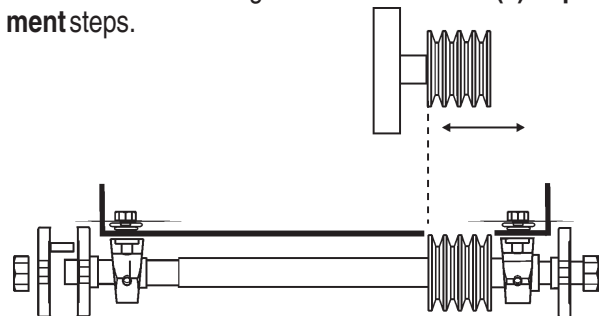
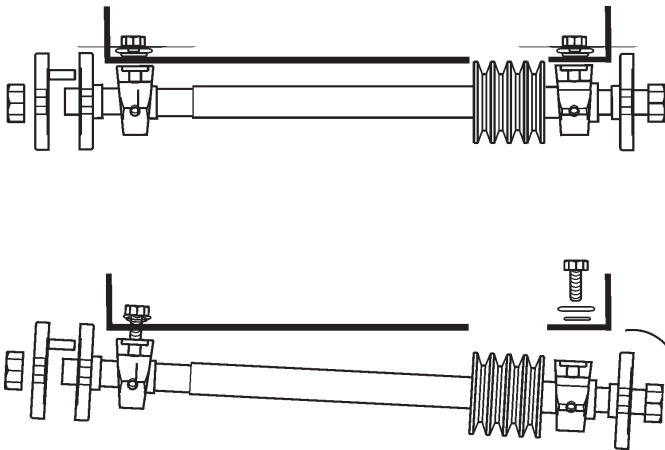

Figure 26. Pulley Alignment
Figure 30. V-Belt Removal
6. Reorient the new pulley on the shaft, and ensure precise pulley alignment by utilizing an accurate straight edge (see Figures 26 and 27).
- Remove **blade flanges** (page 46, items 7 and 8, **Blade Shaft Assembly**) as required to permit the Shaft Bearing(s) to slide off the blade shaft.
- Loosen/remove shaft bearing(s) **hex head cap screws**, page 44, item 11.
6. Tighten the hex head cap screw, page 46, item 11 to secure the shaft bearing (s) to the frame.
7. To complete the re-installation process, reverse the order of the above mentioned steps. For V-belt adjustment and tensioning see pages 32 (Figures 26 and 27) and page 34 (Figure 30).
1. Remove the Belt Guard (page 50, item 17), then loosen the tension of the V-Belts
2. Loosen the Engine Mount Carriage Bolt (page 48, item 4).
3. Loosen the (4) 3/8" HHC screws (page 48, item 7).
5. Loosen the (2) 3/4" HHC screws that support the Blade Shaft Bearings on the **right-side** of the saw (page 46, item 11, also see Figure 30).
6. Remove the (2) 3/4" HHC screws that secure the Blade Shaft Bearing on the **V-Belt side** of the saw (page 46, item 11 also see Figure 30).